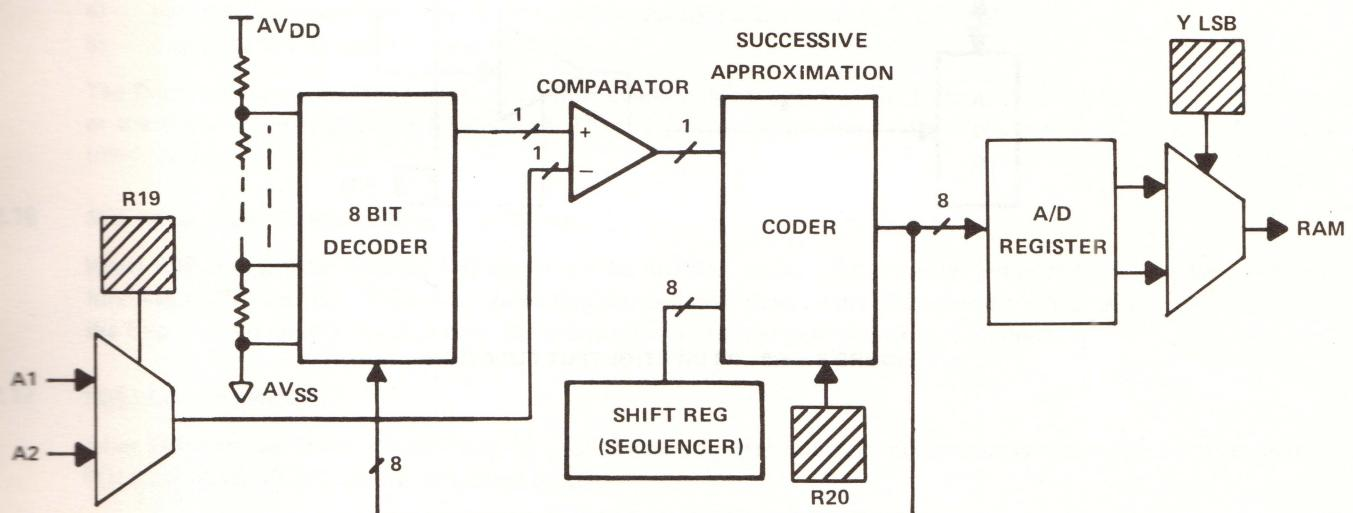

FIGURE 5 – A/D CONVERTER
2.13 ANALOG TO DIGITAL CONVERTER (SEE FIGURE 5)